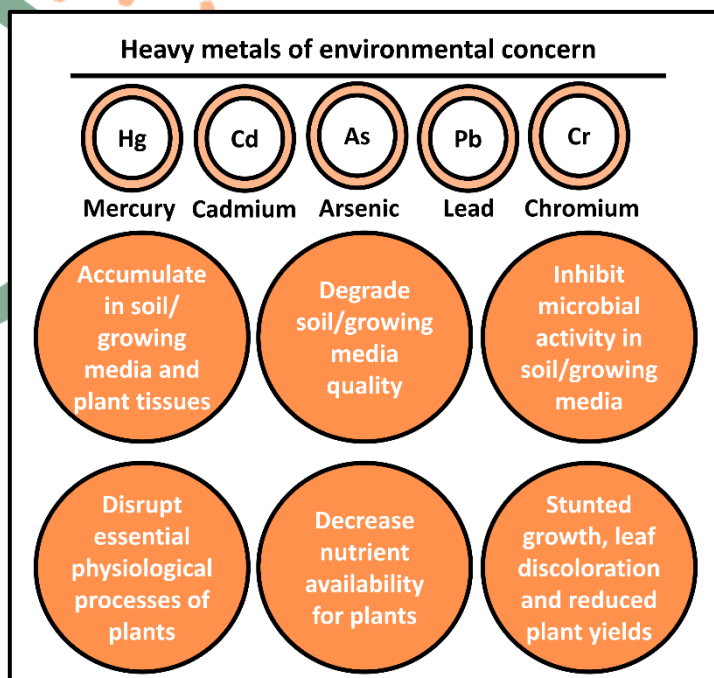

Figure 1. Some heavy metals of environmental concern and their possible effects on plant life.
- High loads of heavy metals are a significant concern, as they can have detrimental effects on soil/growing media quality and plant health (**Figure 1**).